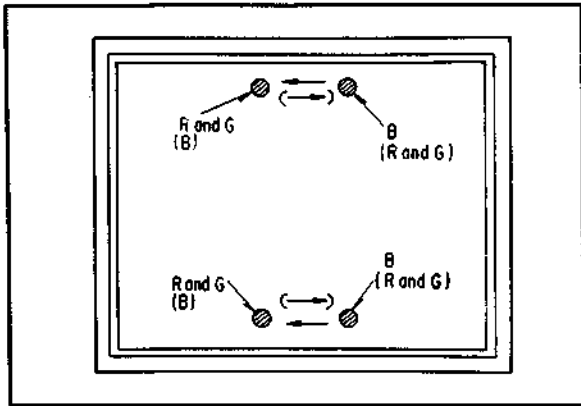
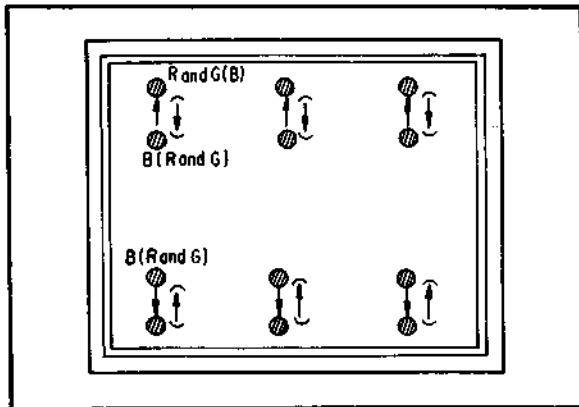
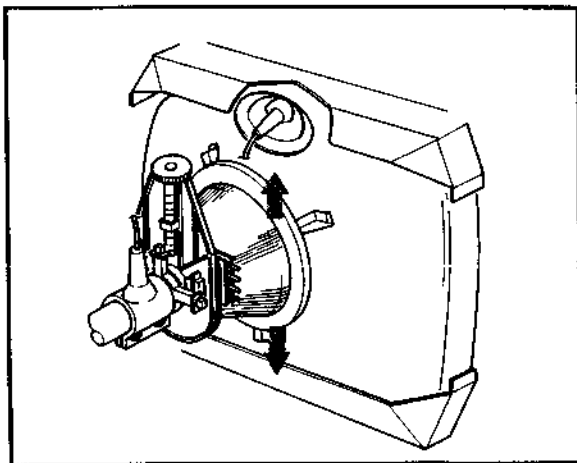

Fig. 3-10. Top and bottom convergence adjustment (1)
Fig. 3-11. Top and bottom convergence adjustment (2)
Fig. 3-12. Convergence adjustment by moving deflection yoke
1. To correct misconvergence of the type shown in Fig. 3-10 and Fig. 3-11, raise or lower the front edge of the deflection yoke after loosening the deflection yoke fixing screw as shown in Fig. 3-12. Take care not to move the deflection yoke forward or backward.